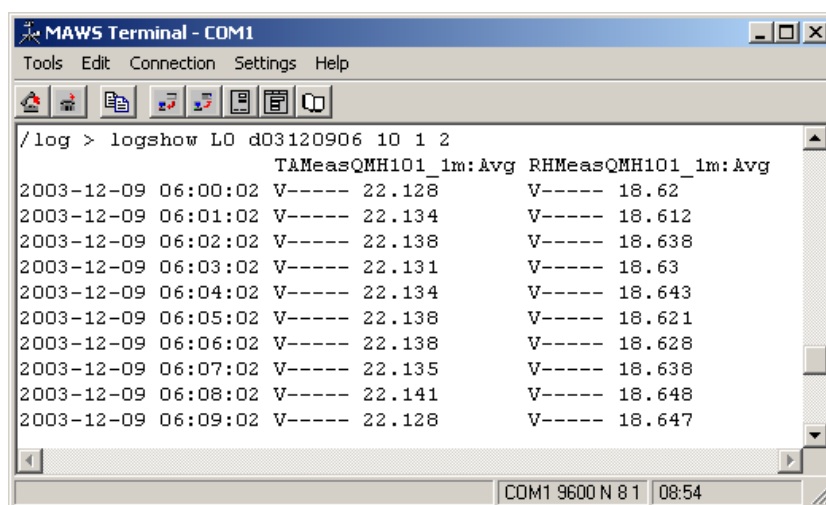

Figure 121 Output of the Logshow Command
In Figure 121 on page 139, the example of a log query shows 10 entries of logged items 1 and 2 starting at 6 AM on December 9, 2003.